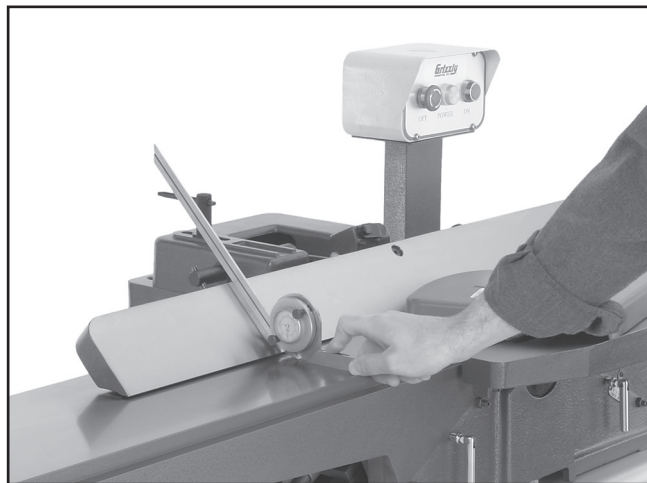

Figure 62. Example of adjusting fence 45° outward.
2. Using a sliding bevel adjusted to 135°, adjust the fence to the 135° (45° outward) position, as shown in **Figure 62**.